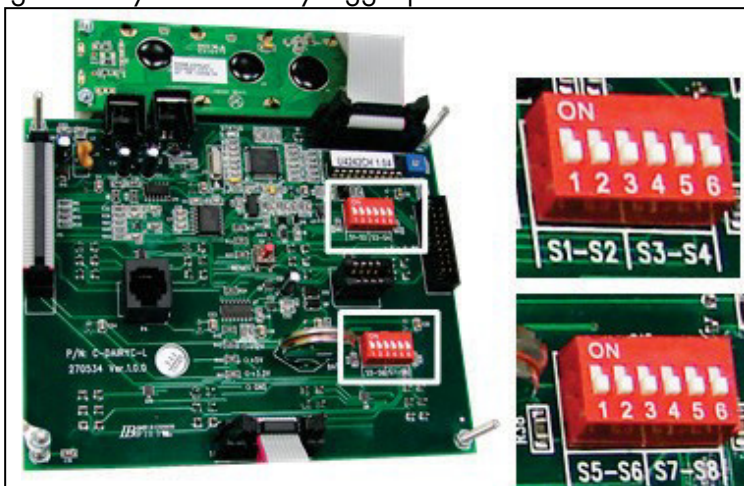

Figure 6: DIP Switch Default Position, Relay Override
2. Each set of relays is controlled by three dip switches. Push all three to the ON position. Figure 6 shows the relay override cancelled for relays 5/6 and 7/8.
NOTE When using Type A or B mode, Munters recommends leaving the dip switches in their default position. Users have Dairy Smart Controllers set to Type C mode can turn off the override as shown in Figure 6, but should leave S1 – S4 switches in their default position.